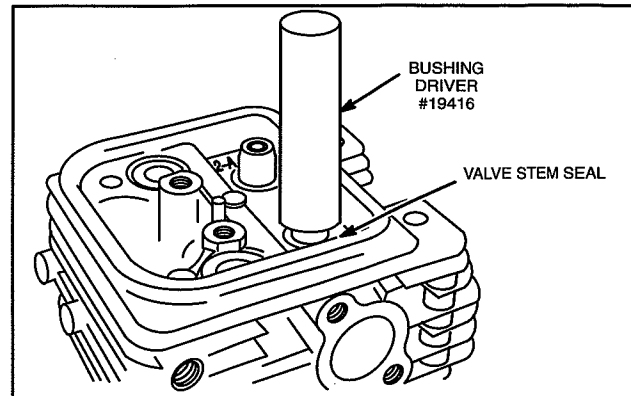

Fig. 19 – Install Valve Seals
- b. Press seal on to valve guide bushing until it bottoms, Fig. 19.